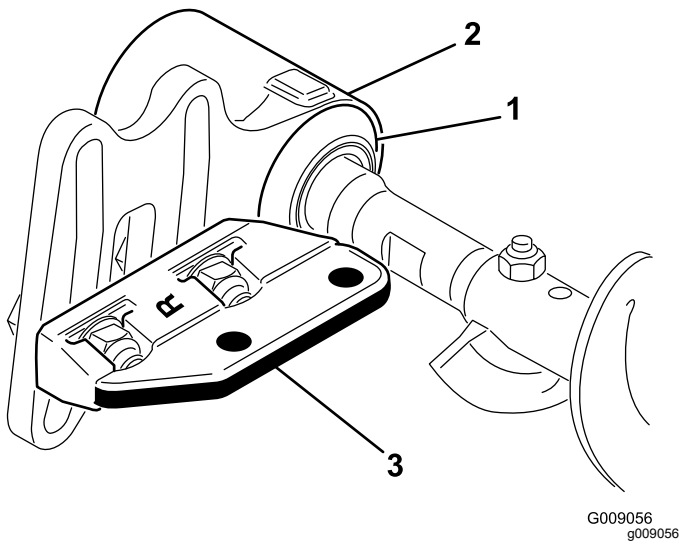

Figure 26
11. Slide each excluder seal outward until the lip seals are in light contact with each bearing housing (Figure 26).